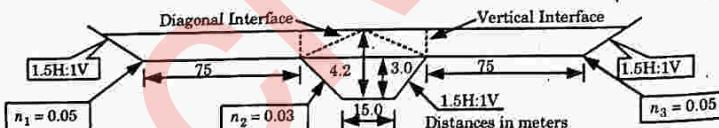

Fig. 1.36.1. Schematic representation of compound channel.
- In this method the flood banks are separated from the main channel by means of vertical interface as shown in Fig. 1.36.1. This interface is considered as a surface of zero shear where no transfer of momentum takes place.
- In this method, a diagonal interface is considered from the top of the main channel bank to the centerline of the water surface as shown in Fig. 1.36.1.
- The channel section is considered divided into three subsections, A_1 , A_2 and A_3 by means of two vertical interfaces which start at the intersection of the flood plains and the main channel as shown in Fig. 1.36.1.
By symmetry, sub-area A_1 = sub-area A_3 . The vertical interfaces are as indicated in Fig. 1.36.1.